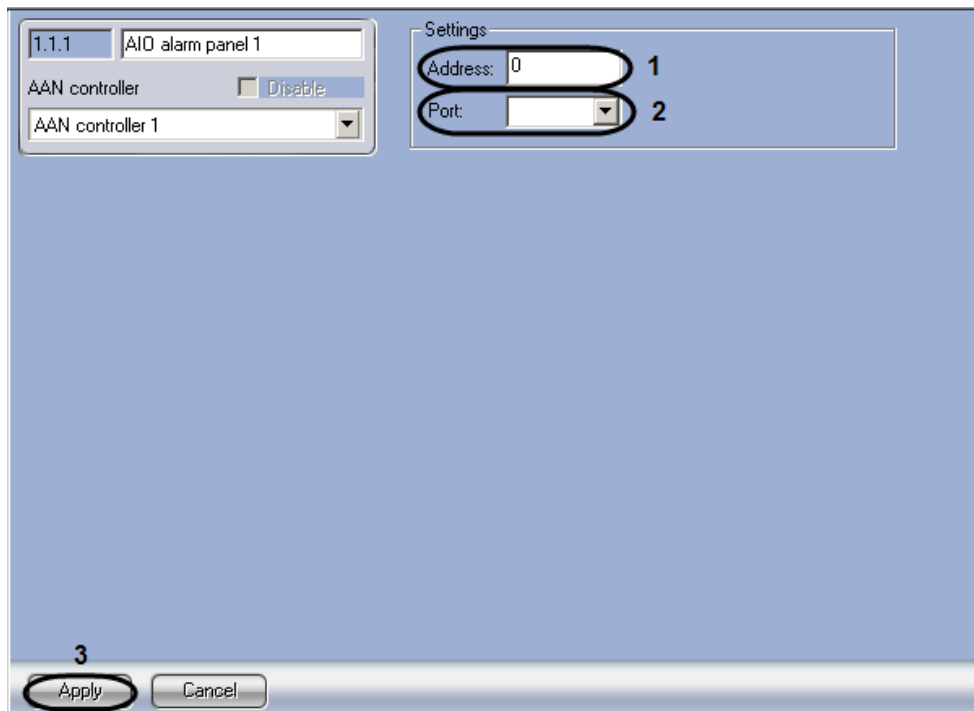

Fig.3.3-4 Settings pane of an AIO Alarm Panel object
1. Go to the **AIO Alarm Panel** object's settings panel (Fig.3.3-4).
2. In the **Address** field, enter the *AIO* alarm panel's unique address (see Fig.3.3-4, 1).
3. Select the port used to connect to the *AIO* alarm panel from the **Port** dropdown list (see Fig.3.3-4, 2).
4. To save changes, click the **Apply** button (see Fig.3.3-4, 3).